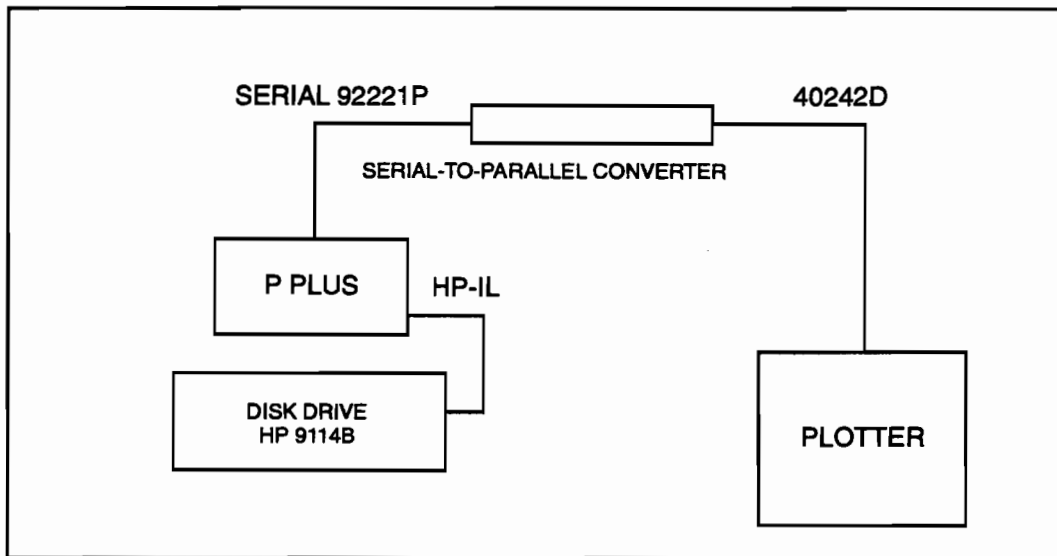

Figure 8-18. Centronics Test
5. Connect the Portable PLUS as shown in Figure 8-18.
6. Turn the Portable PLUS and the disk drive ON (I). If the service disk (HP P/N C1600-60401) is not being used go to step NO TAG
8. Turn the plotter ON (I).